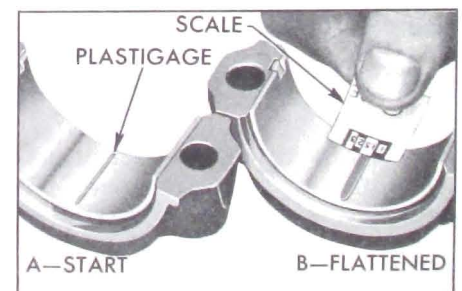

Figure 2-28—Checking Bearing Clearance with Plastigage
2. Place a piece of Plastigage lengthwise along the bottom center of the lower bearing shell (Figure 2-28, view A), then install cap with shell and tighten bolt nuts to 40-45 ft. lbs. torque.
5. Using the scale printed on the Plastigage envelope, measure the flattened Plastigage at its widest point. The number within the graduation which most closely corresponds to the width of Plastigage indicates the bearing clearance in thousandths of an inch. See Figure 2-28, View B.